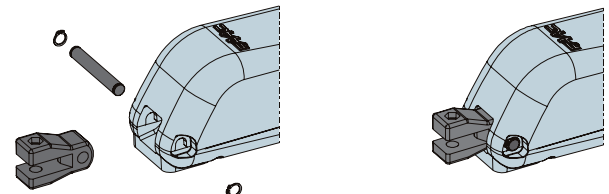

Fig. 8
- 2) Assemble the rear fitting to the operator as shown in Fig.8.